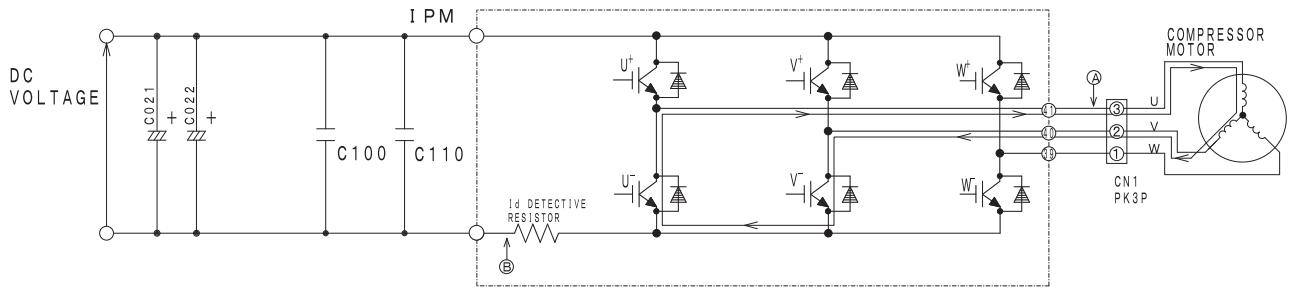

Fig. 4-4 Power module circuit ( $U^+$  is OFF,  $V^-$  is ON)
- (2) When U+ transistor is OFF: (by inductance of motor coil) U coil – V coil – V- transistor – U- diode – Point (A) (Fig. 4-4)